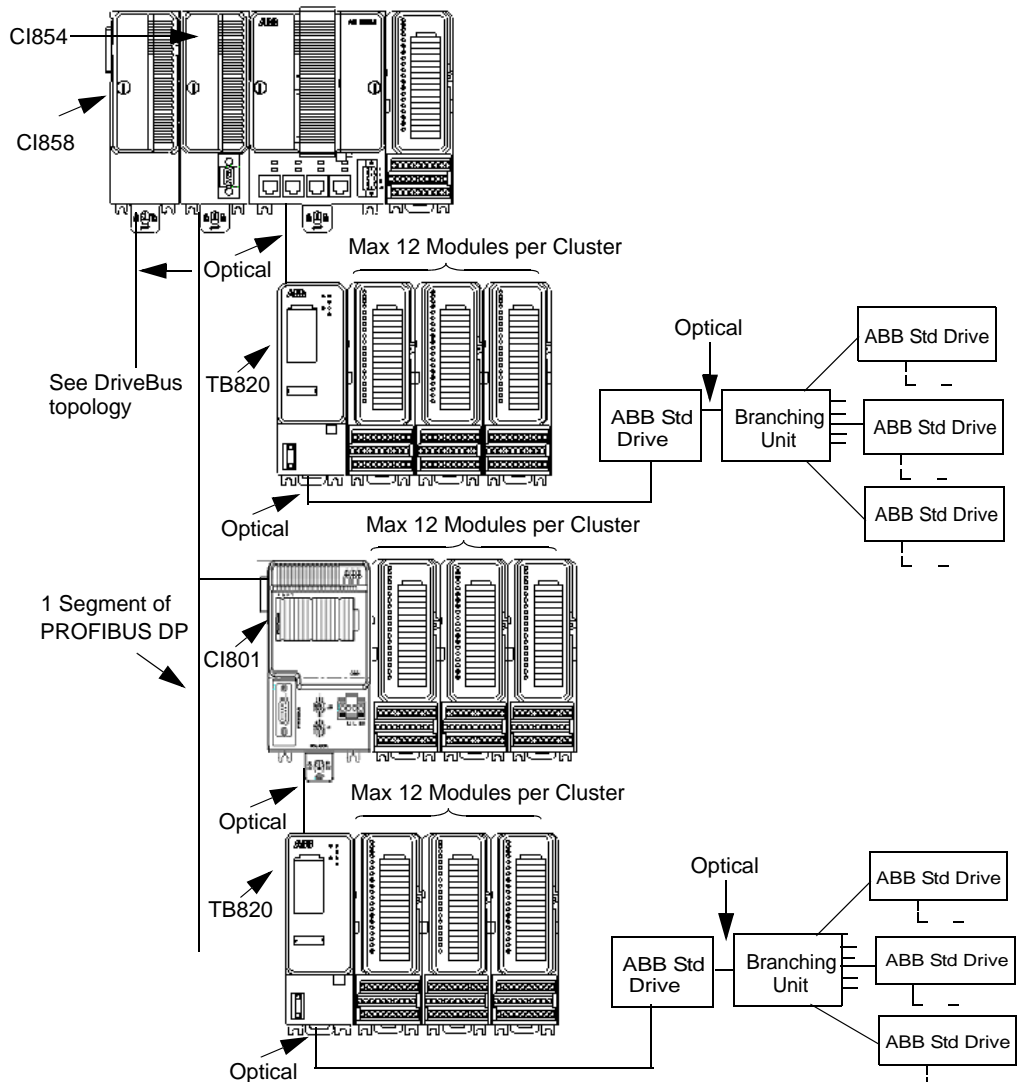
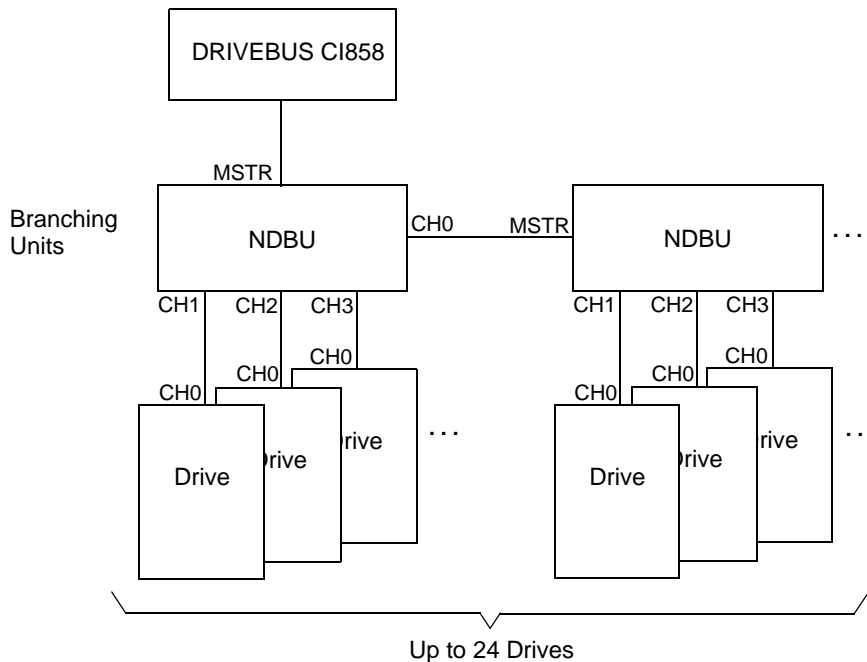

Figure 3.7: Example of Connection of ABB Drives in Single CPU Configuration
Figure 3.8: DriveBus Topology
In single CPU configuration, ABB Drives can be connected to the processor unit via the optical ModuleBus. See Figure 3.7 on page 161. The number of ABB Drives which can be connected to the optical ModuleBus, can be described by the following equation:
In single and redundant CPU configuration, ABB Drives can be connected via PROFIBUS DP and CI801. See Figure 3.7 on page 161. Only Standard Drives can be connected to CI801. Nine (9) Standard Drives can be connected to each CI801 if there are no I/O units connected. For the number of Drives that can be connected to the same CI801, when both I/O units (TB820) and Standard Drives are connected, refer to documentation about FCI for PROFIBUS DP.
For information about Branching Unit (Figure 3.7 on page 161) see ABB Drive System documentation.
ABB drives can be connected to the AC 800M via the CI858 unit, see Figure 3.7 on page 161 and Figure 3.8 on page 162. The drive interface can be used for controlling up to 24 drives or inverter units.
Connection of multiple drives requires the use of a branching unit, which enables the construction of a logical bus with physical star topology, see Figure 3.8 on page 162. The branching units can be chained.